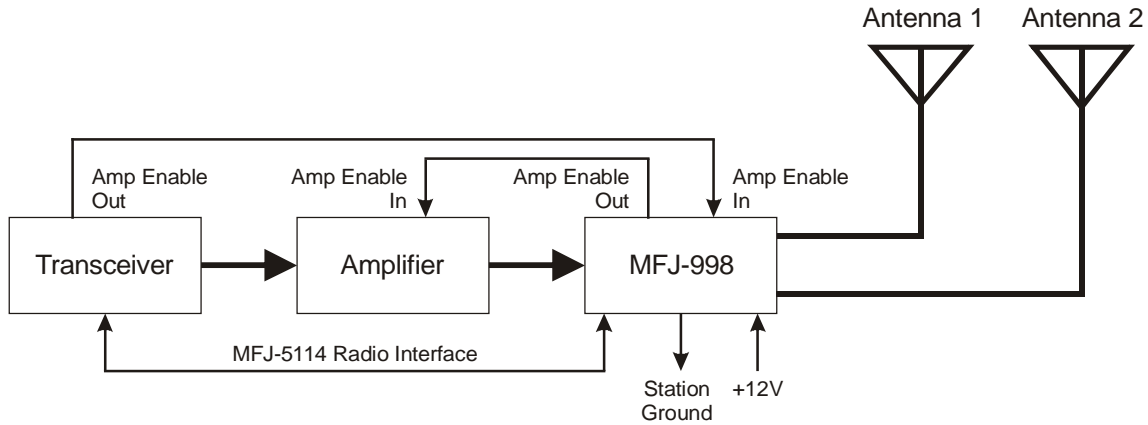

Figure 1. Installation Block Diagram.
Connect the MFJ-998 to the transceiver, the amplifier, and the antenna as shown in Figure 1 and per the following directions:
2. Connect the tuner to the transceiver, the amplifier, and the antenna with 50-ohm coaxial cables capable of handling the RF power levels expected. See Figure 1 on page 5.